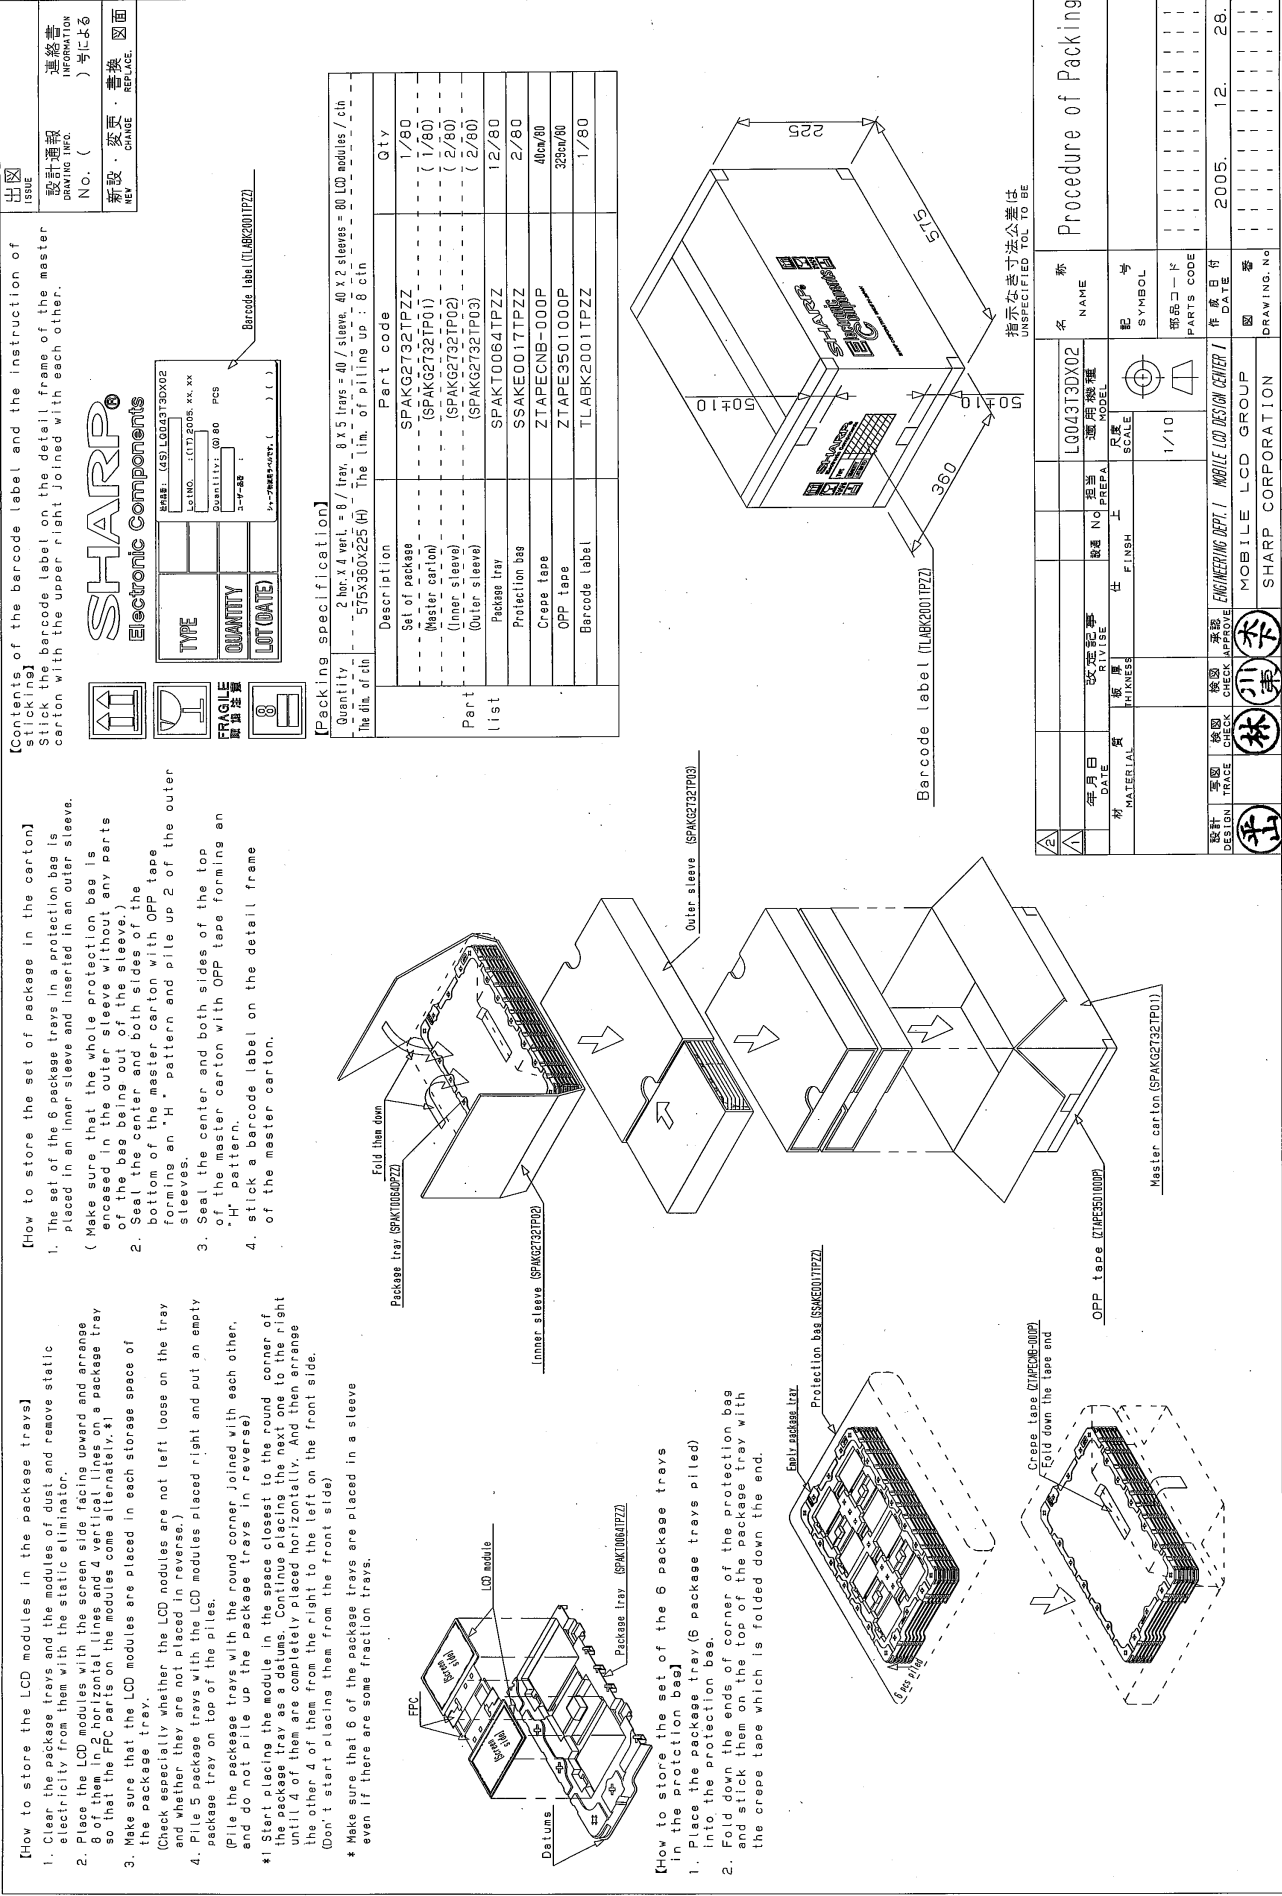

Figure 4 Packing style
- 3)Packing form : As shown in Figure 4.